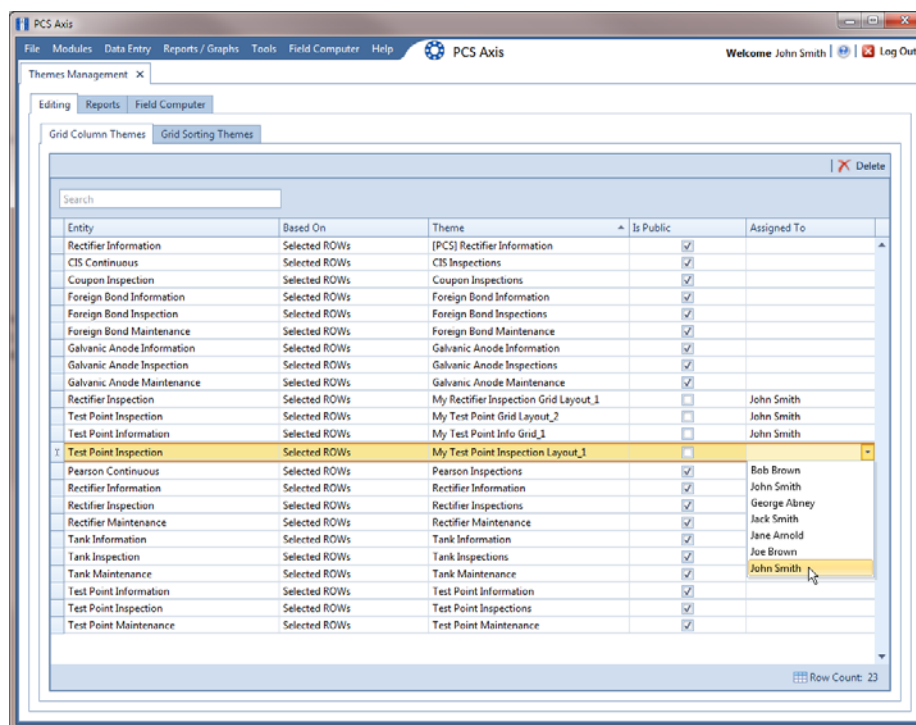

Figure 13-7. Themes Management
- 1 Click **Tools** > **Themes Management** to open the *Themes Management* window (Figure 13-7, page 526).
- a Select a theme in the grid. In the following example, a *Test Point Inspections* theme addition is selected (Figure 13-7, page 526).